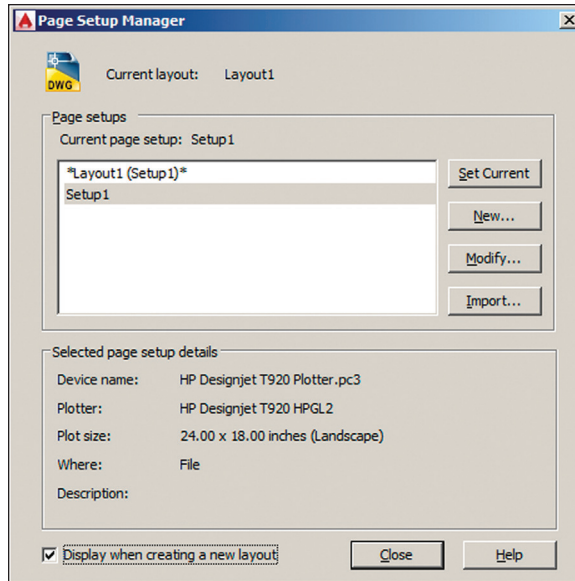

FIGURE 14.19 Saving a page setup for use in the next layout
4. The `Page Setup Manager` dialog box now lists `Setup1` as a saved page setup. Select `Display When Creating A New Layout` (see Figure 14.19). Click the `Set Current` button and then click `Close`.